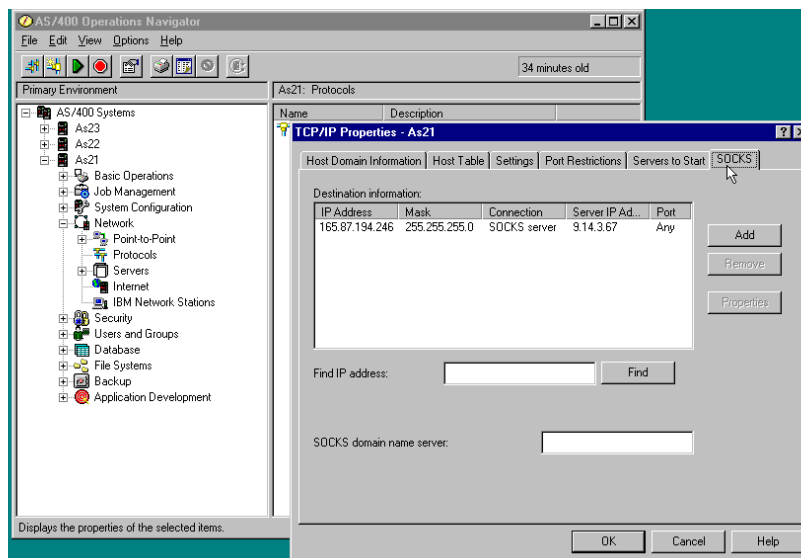

Figure 329. SOCKS
8. Click the **SOCKS** tab to define the TCP client connection to internal secure networks and to less secure networks. You can define a direct connection to servers in the internal secure network. Users must have *IOSYSCFG special authority to change information on this dialog. Figure 329 shows the SOCKS dialog.